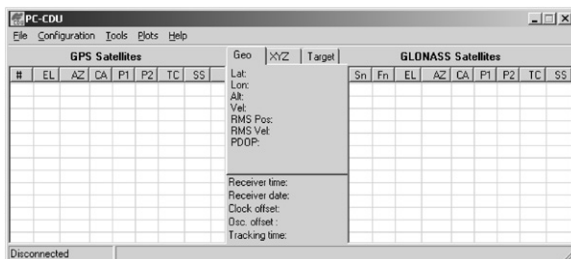

Figure 2-1. PC-CDU Main Screen
3. Start PC-CDU on your computer. The PC-CDU main screen displays (Figure 2-1).